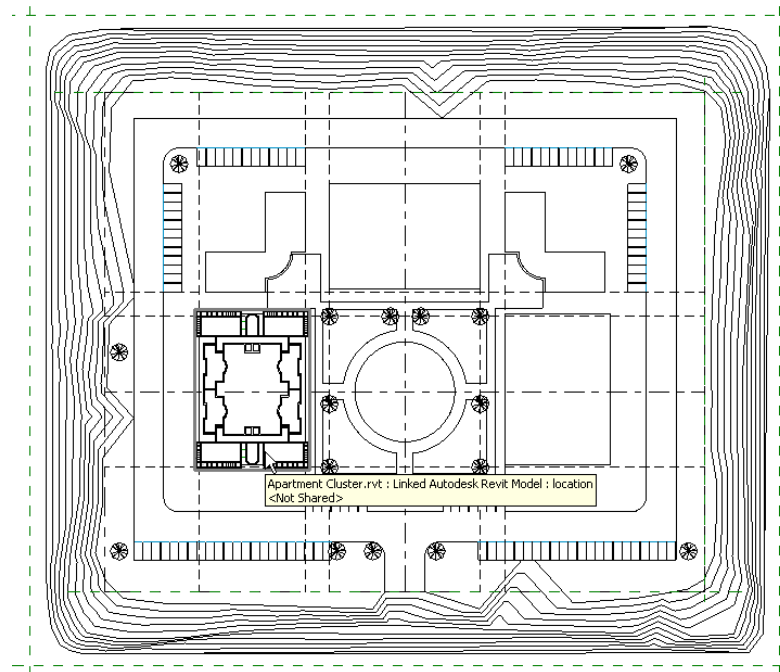

Figure 16-75 *Placing the linked Apartment 1 project over the building pad*
7. Place the *Apartment Cluster* project over the building pad at the location shown in Figure 16-75. You may need to use the **Move** tool to align the linked model. The exact location is not important for this tutorial.